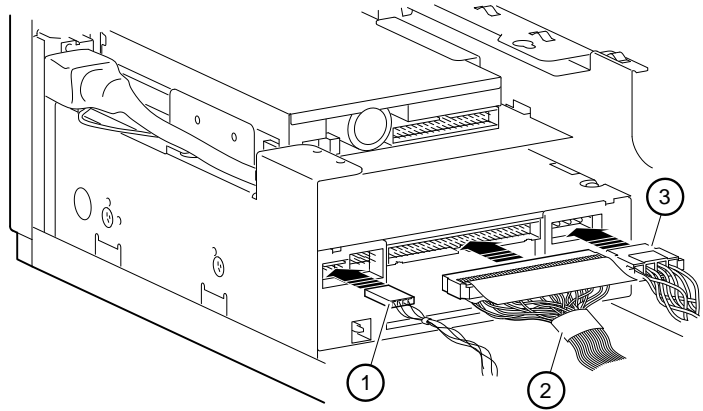

Figure 4-21 Cabling the Drive
- Connect the audio ① (if appropriate, for CD drives), SCSI ②, and power ③ cables, as Figure 4-21 shows.